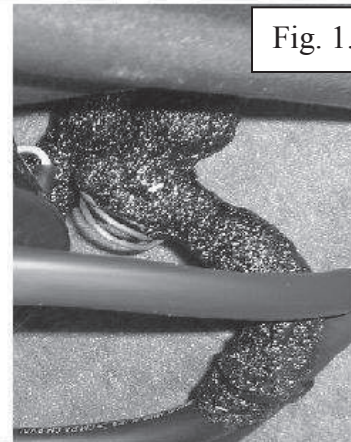

Fig. 1.6
- 11) After the a/c hoses are connected use the black cork tape to cover the metal fittings, and connections at the evaporator box. See figure 1.6